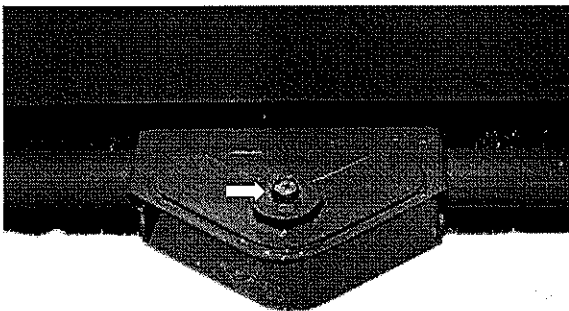

figure 7
1. Remove the 3/4 x 9 in. cap screw and lock nut from the brush frame swing point (figure 7).